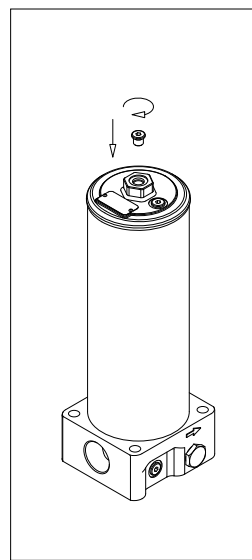

fig. 29
- (Fig. 29) Continue the operation until leakage from the CLEAN SIDE, then screw the breather plug in